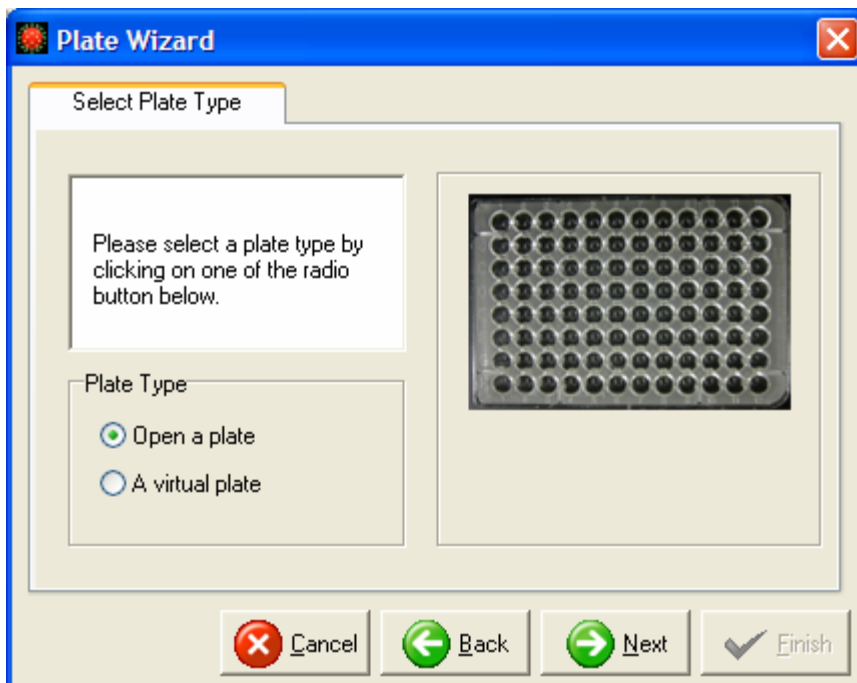

Figure 3.2 Plate Wizard
- ⇒ The Select Plate Type tab appears (Figure 3.2).